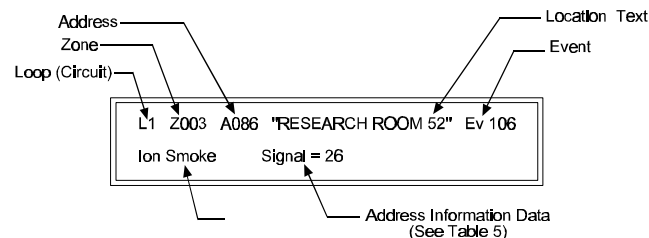
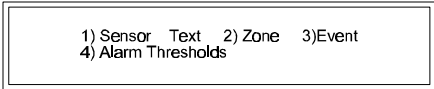

Figure 20: Address Information Display
Figure 21: Detection Device Information Change Submenu
- Press **Yes** to accept. The display changes to the Address Information Display (see Figure 20). To change the address to be inspected, press the **Change** key. The display shows the Device Inspection Address Change Submenu.
- Use the “>” and “<” keys to move up and down the addresses on this circuit. Press **Change** to change device information. The display will change to the Device Information Change Submenu (If only the text can be changed, the Device Text Submenu is displayed when **Change** is entered). The panel allows changes to the alphanumeric text display and the assigned zone. Option 3) Event allows the connection of individual devices to system events. If the device is a smoke or heat detection device, alarm thresholds may be changed from this menu (see Figure 21).
- Devices other than Smoke and Heat detectors may be programmed to display actions other than an alarm. Instead of 4) Alarm Thresholds, these devices will offer Option 6) Action on the Device Information Change Submenu (see Figure 21). Device Action programming is covered in section 7.3 "Device Configuration."
- During Device Configuration, the programmer has the option of changing the zone assigned to the device being inspected. Press the **Change** key while viewing the Address Information Display (Figure 20) to reach The Detection Device Information Change Submenus (Figures 21 and 22). Option 2) Zone on these submenus displays the Individual Device Zone Change Submenu.